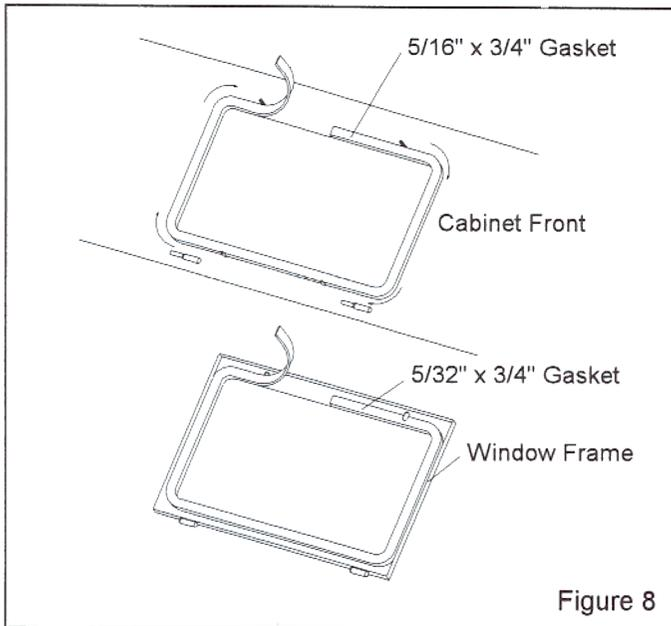

Figure 8
## 7.4 Window Gasket Replacement, Figure 8
**7.4.4** Peel a short section of adhesive backing from the 5/16" thick strip gasket, and adhere the gasket to the center of the top edge of the window opening as shown in Figure 8. Peel additional backing as needed, and work the strip around the radius of each corner, pressing it tightly to bond. Trim the gasket to fit and compress the ends to seal.